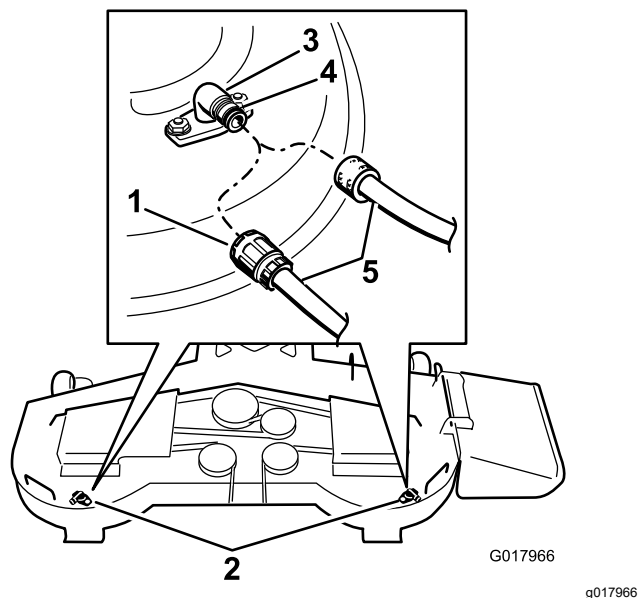

Figure 81
3. Attach the hose coupling to the end of the mower washout fitting, and turn the water on high (Figure 81).